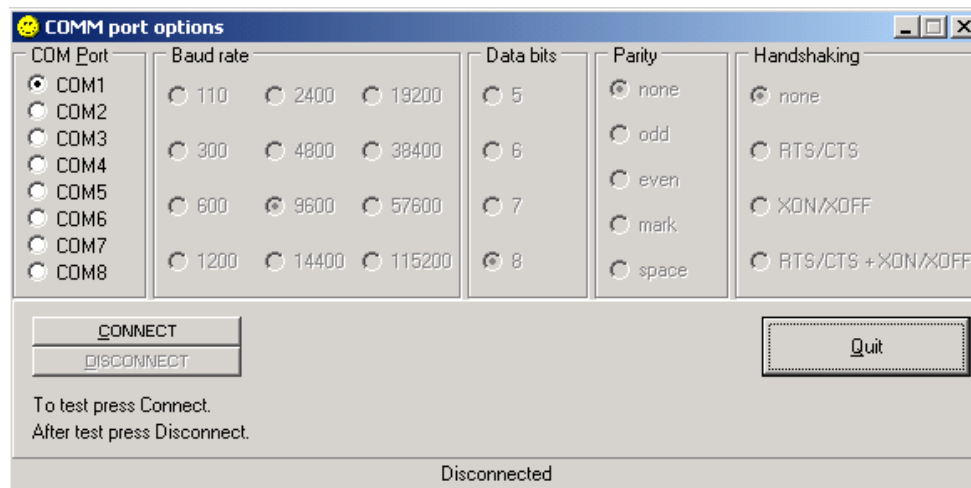

Fig. 3-3: Common Port options, Press Shift+Ctrl+F1
1. Set serial port choosing menu Options – **Interface** options - Shift+Ctrl+F1 (Fig. 3-3), COM1 in most cases.